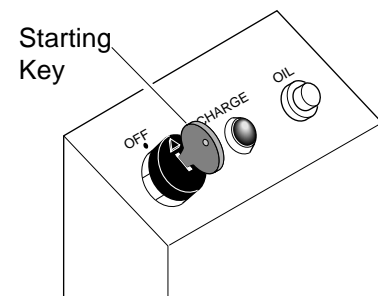

Figure 18 - Starting Key
- II. Turn the starting key clockwise to the START position (see Figure 18). Hold it there until engine starts.